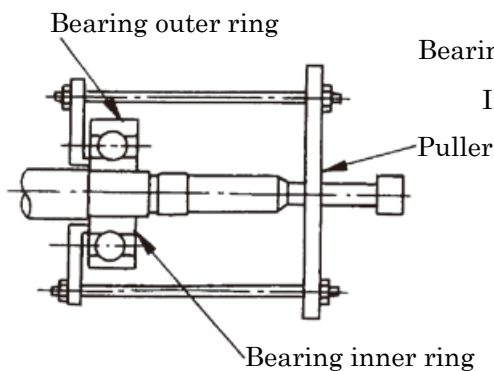

Fig.14 Removal of ball bearing
- (3) Pull out the ball bearing (Fig. 14) and roller bearing inner ring (Fig. 15) with a puller. In case of grease-replenish type structure, pull out above parts together with bearing inner cover and inside slinger.